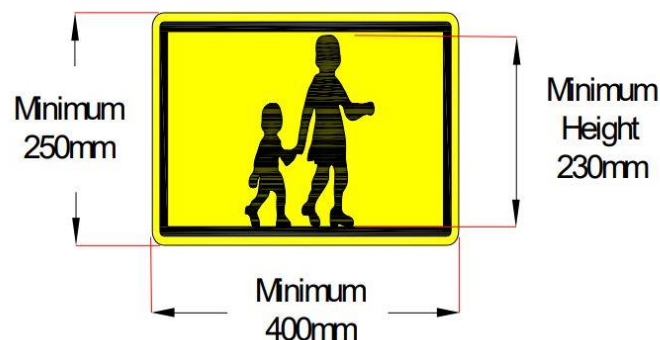

Figure 2 - Front warning sign - Option 2
- Display the “Image of two children” where the image of the taller child must have a minimum height of 230 millimetres (*Figure 2*).
- For the rear of the bus, the warning sign shall be the “**Image of two children**” as per *Figure 2*.